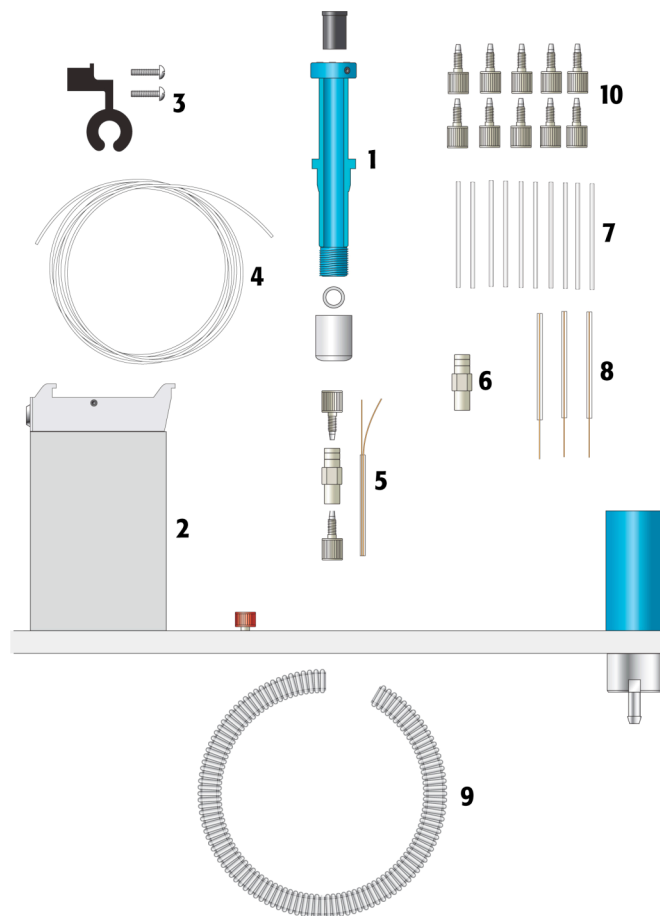
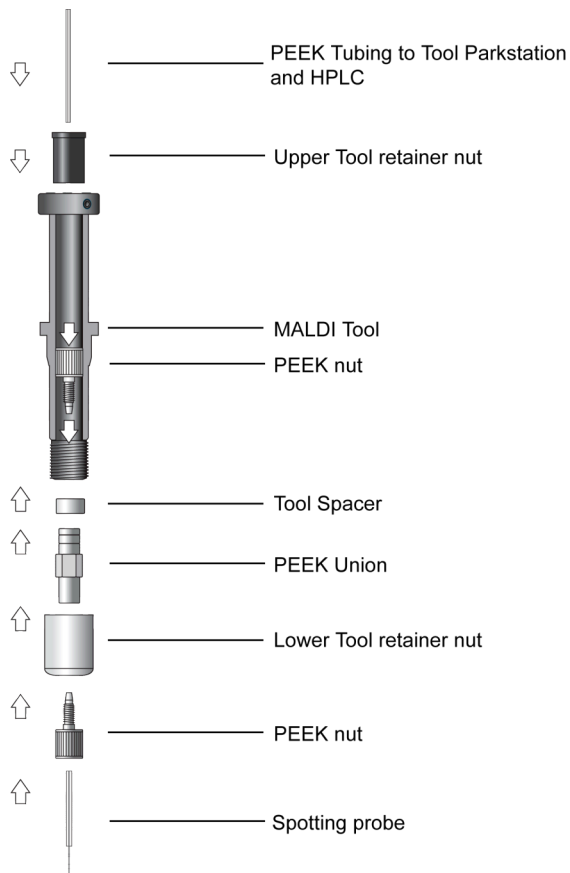

Figure. 2. PAL MALDI Option parts
Figure 8. Assembling the MALDI Tool
- 1 The MALDI Tool is already preassembled using the PEEK tubing ID 0.0025" / OD 1/16", the PEEK Union 10-32 to 10-32, the PEEK nuts 10-32 1/16" and one coated spotting tip according Fig. 8 (view parts on Fig. 2, page 13)